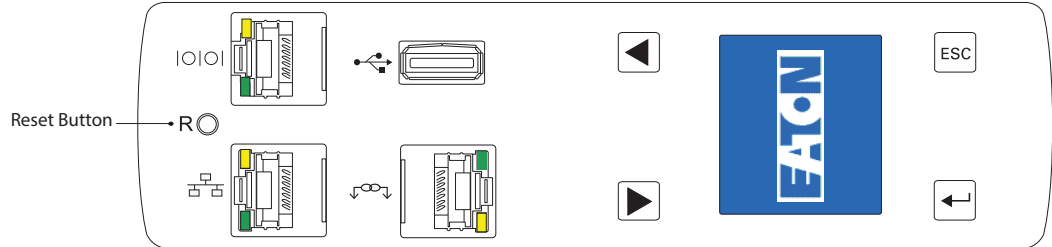

Figure 44. Reset Button (0U Models)
- 3. After 10 seconds, use the reset button to restart the eNMC module and apply the new settings (see Figure 44).